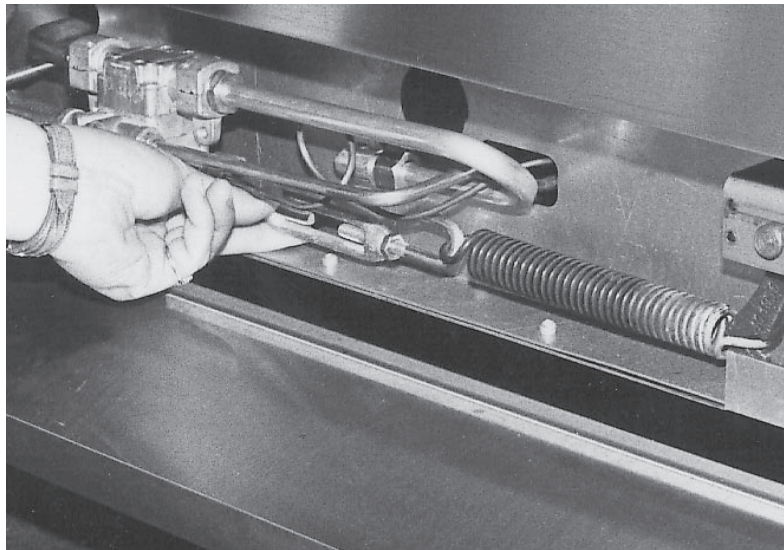

Fig. 21
11. While holding stem calibration screw in place, turn thermostat dial until it is set on the actual temperature shown by the testing device (Fig. 21).